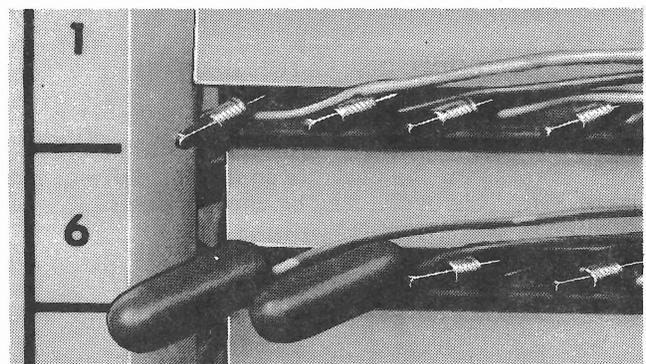

Figure 39. Wire-Wrap Terminal Cap
23.01 This red colored plastic cap may be used to mark and protect the wire-wrap terminals of special circuits. The cap is designed to fit snugly over a wire-wrap terminal with a wire wrapped in place (see figure 39).